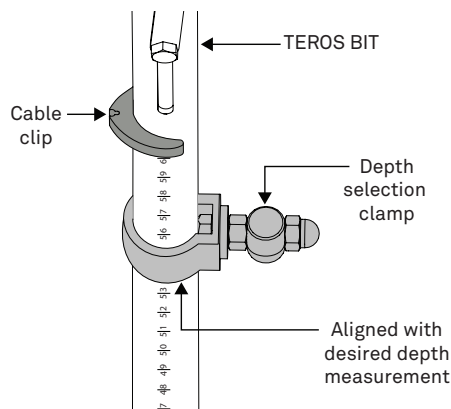

Figure 20 Depth selection clamp
6. Mount the depth selection clamp on the handle or extension rod if it is not already attached. (Figure 20).
7. Move the depth selection clamp to the desired depth mark on the rod (Figure 20).
10. Place the depth selection clamp into the marked flange hole (Figure 20).
3. Press the sensor cable into the cable slot on the sensor carrier (Figure 20).